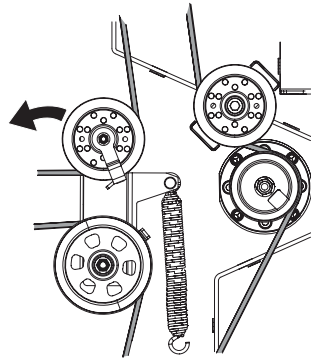

Figure 53
9. Pull the right side of the PTO belt rearward and place the narrow V-side of the PTO belt into the PTO pulley (Figure 53).